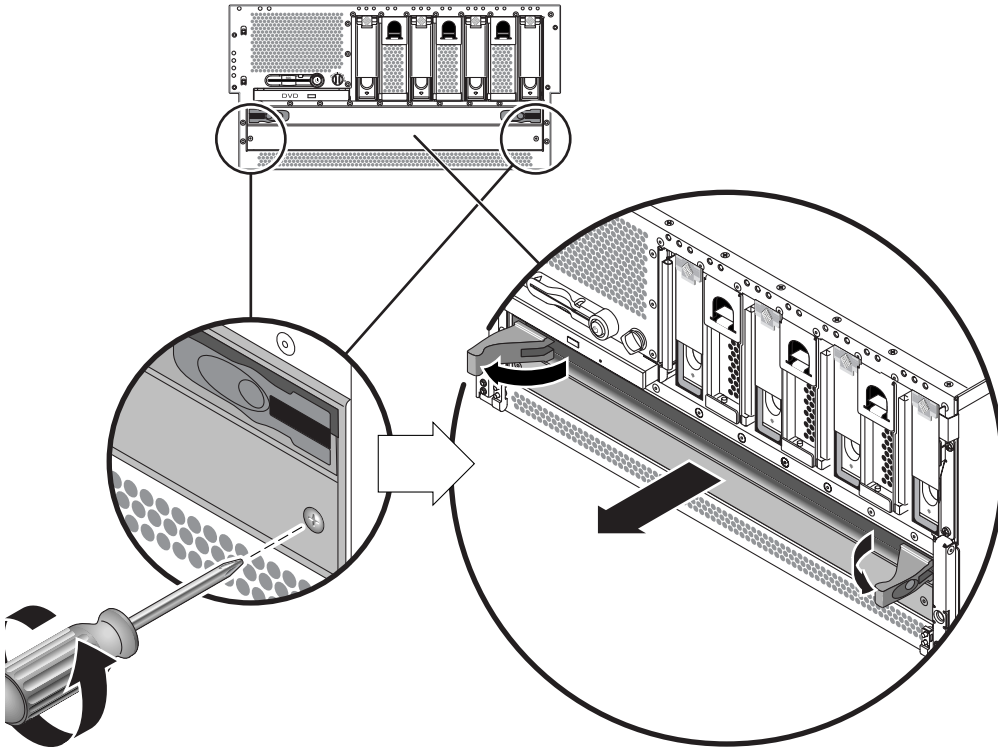

FIGURE 4-38 Disengaging the Power Distribution Board
- a. Using a Phillips screwdriver, loosen the two captive screws that secure the base of the power distribution board to the server (FIGURE 4-38).
- b. Pull on the ejector latches to unseat the power distribution board from the motherboard (FIGURE 4-38).